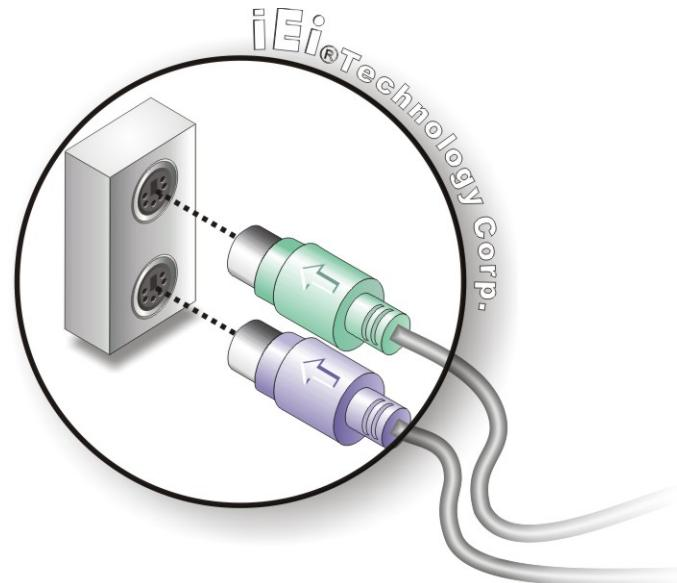

Figure 5-17: PS/2 Keyboard/Mouse Connector
Step 2: Insert the keyboard/mouse connector. Insert a PS/2 keyboard or mouse connector into the appropriate PS/2 connector on the external peripheral interface connector. See Figure 5-17.